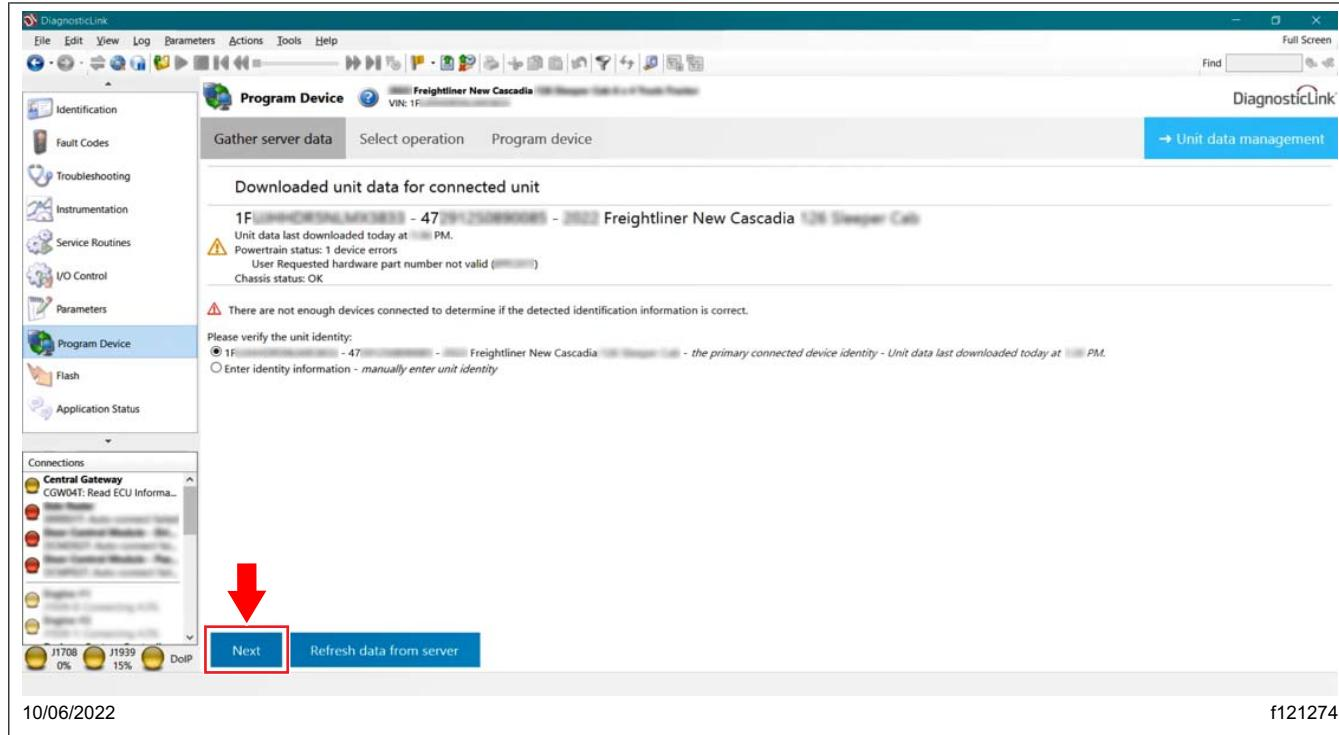

Fig. 14, Selecting Next
20. Once the latest data is retrieved, select 'Next.' See **Fig. 14.**